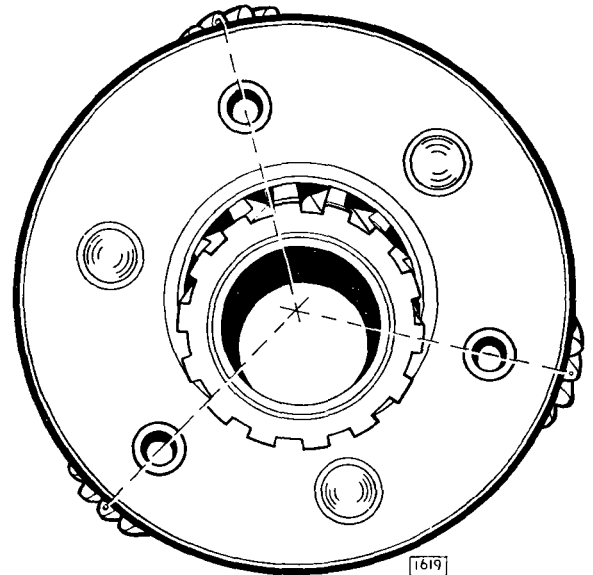

Fig. 28. Assembly of the planet gears—note the positions of the marked teeth.
4. Fit the planet carrier, with its planet gears, over the sun-wheel with the marked teeth of the planets radially outwards as shown in Fig. 28 and with the assembly in this position offer it up to the annulus.
the sun-wheel the steel washers fit next to the head of the support bush in the housing and the bronze washer between the steel one and the sun-wheel. At the rear the steel washer is sandwiched between the two bronze washers. The latter are similar and their positions interchangeable. It is essential when assembling the gear train to ensure that the planets are turned to their correct relative positions as shown in Fig. 28.